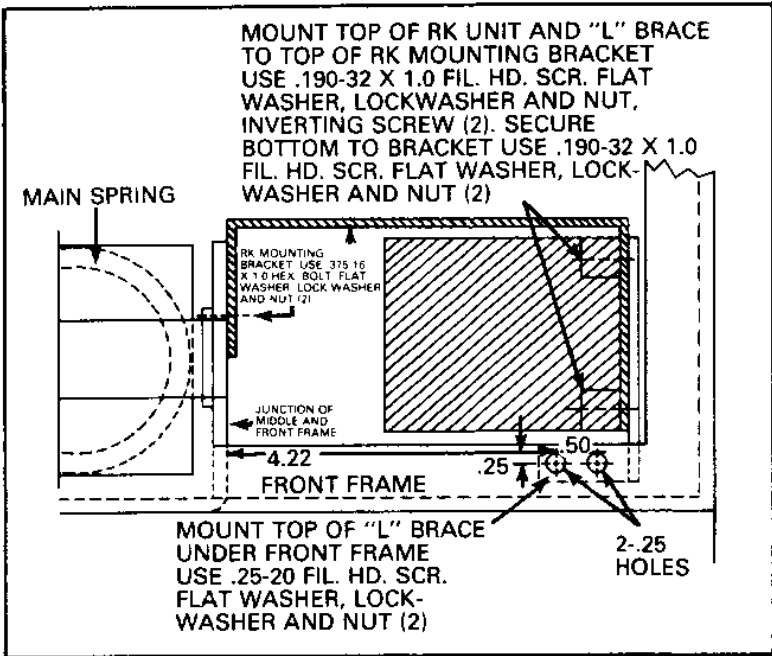

Fig. 5 Right Front Top View
5. Review the photographs to acquaint yourself with the items and location, especially the right and left side view of the breaker Figs. 5, 6, 8 and 9.
- 3. Viewing the breaker from the top, locate a starting point at the junction of the top of the front frame and the middle side frame. From this point measure 4.22 inches along the front frame and .25 inches in to locate the first hole (See Fig. 5), measure another .50 inches over and .25 inches in to locate the second hole. Drill two (2) .25 holes.
- 5. Mount the top of the "L" brace to the front frame using .190-32 x .75 fil. hd. screw, flat washer, lockwasher and nut, do not secure tightly, let the "L" brace be loose (See Figs. 5 and 6).